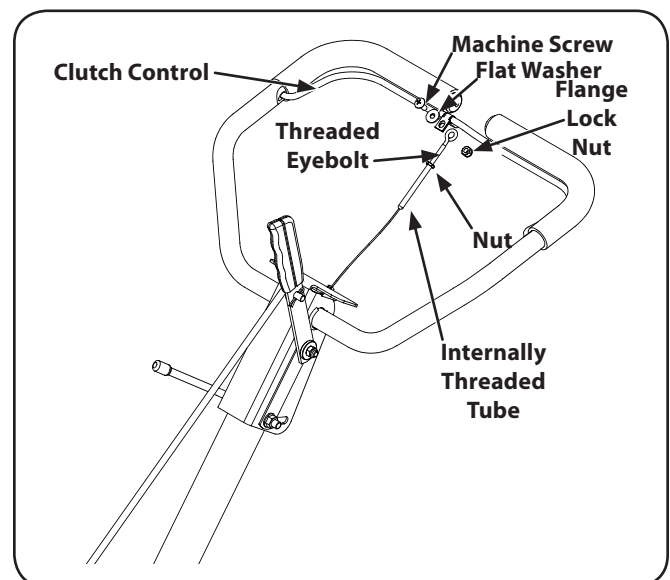

Figure 1-5
4. Remove the machine screw, flange lock nut and washer from the clutch control. See Figure 1-5.
6. Thread the eyebolt and nut removed earlier into the internally threaded tube at the end of the cable. Thread engagement should be about $\frac{3}{4}$ ". Tighten the nut against the tube at the end of the cable. See Figure 1-5.